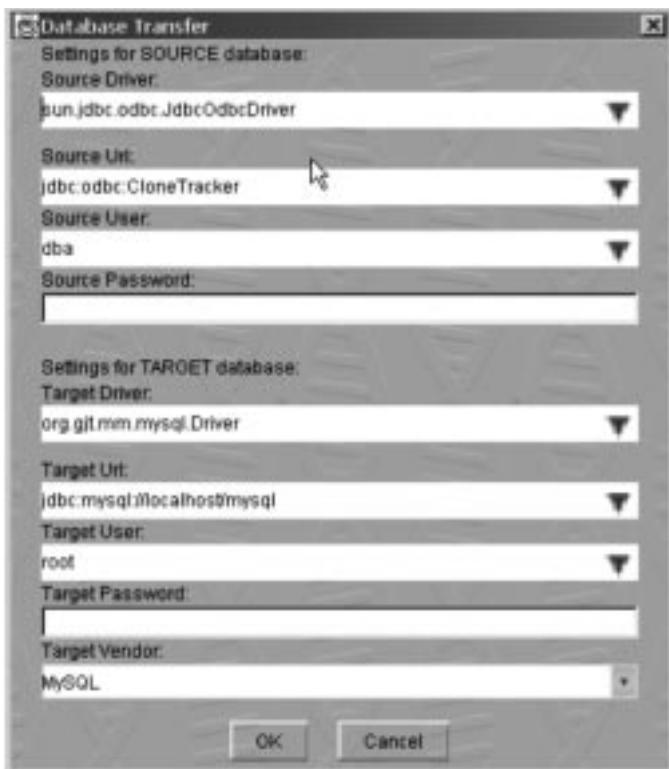

Fig. 3-1
2. Read the initial message. click OK to continue. (Fig. 3-1)